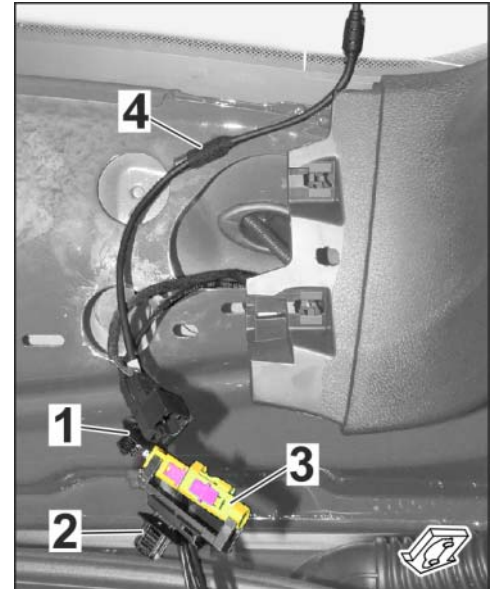

Figure 22
3.6.1 Carefully remove the power supply retaining clip and video signal retaining clip from the tailgate and guide it outwards out of the rear lid cavity. ⇒ *Figure 22*
3.6.2 Secure wire harness for rear camera to the tailgate frame using wrapping clip and insulating tape. ⇒ *Figure 22 -4-*
3.6.4 Remove video signal plug connection from holder and remove dummy plug (⇒ *Figure 22 -3-*).